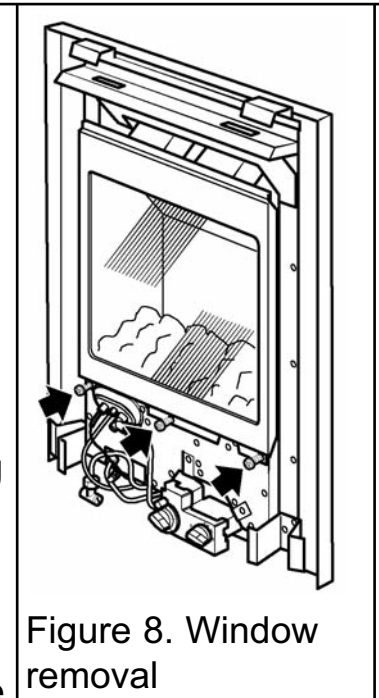

Figure 8. Window removal
- Unscrew and remove the three spring loaded window fixing screws and bushes from the base of the window frame (See figure 8). Keep the screws and bushes in a safe place.